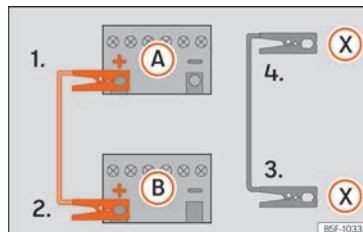

Fig. 51 Diagram of connections for vehicles with Start-Stop system.
- 4b. *In vehicles with a Start-stop system:* connect one end of the black jump lead (X) to a suitable ground terminal, to a solid piece of metal in the engine block, or to the engine block itself » » » Fig. 51.
5. Connect the other end of the black jump lead (X) to a solid metal component bolted to the engine block or to the engine block itself of the vehicle with the flat battery. Do not connect it to a point near the battery (A).